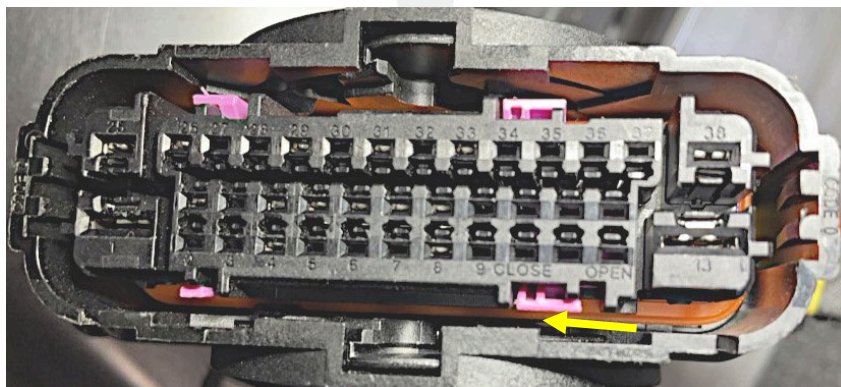

Figure 27
18. Use a pick to slide the large locking tab of the HCU connector from “OPEN” to “CLOSE” (Figure 27).